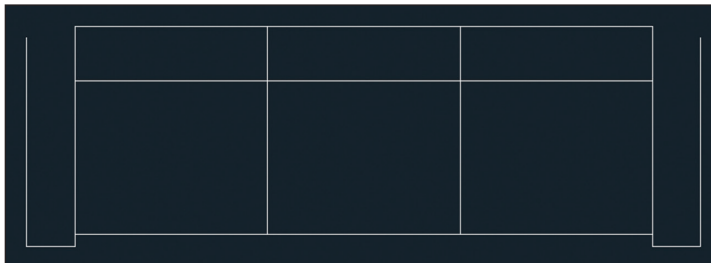

FIGURE 9.4 Filletting lines to meet at sharp corners
9. Press the spacebar to repeat the FILLET command. Click the inner line on the left arm of the sofa and then click the back line. Figure 9.4 shows the result.